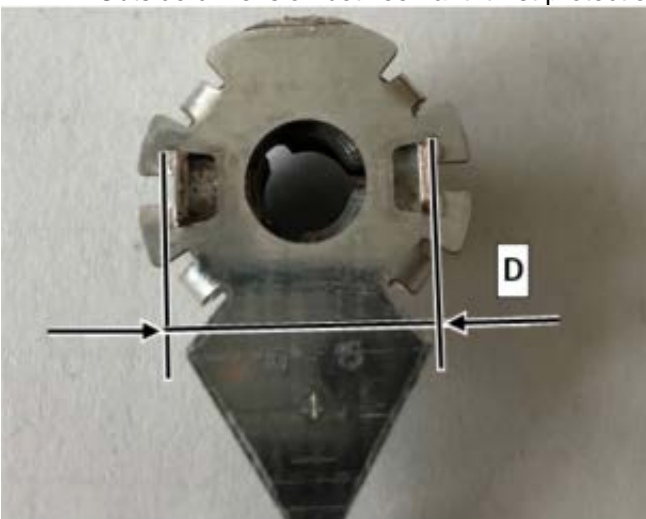

Figure 4
10. Measure outside dimension between anti-twist protection lugs (**D, figure 4**).
**i** Outside dimension between anti-twist protection lugs (**D, figure 4**) min. 13.6 mm.
- a. Anti-twist protection (**C, figure 3**) **straight** or **bent outwards**, i.e. outside dimension between anti-twist protection lugs (**D, figure 4**) **equal to or greater than 13.6 mm**: Perform operation step 11, then **end measure**.
- b. Anti-twist protection (**C, figure 3**) **bent inwards**, i.e. outside dimension between anti-twist protection lugs (**D, figure 4**) **less than 13.6 mm**: Create **PTSS case**.
**i** Only if anti-twist protection of cable lug is **bent inwards** , i.e. outside dimension between anti-twist protection lugs (**D, figure 4**) is **less than 13.6 mm**.